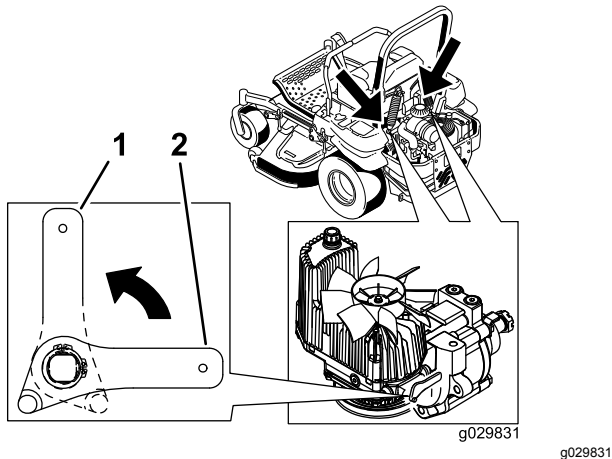

Figure 39
2. Rotate the release valve levers vertically to push the machine. This allows hydraulic oil to by-pass the pump enabling the wheels to turn (Figure 39).
4. Rotate the release valve levers horizontally to run the machine (Figure 39).